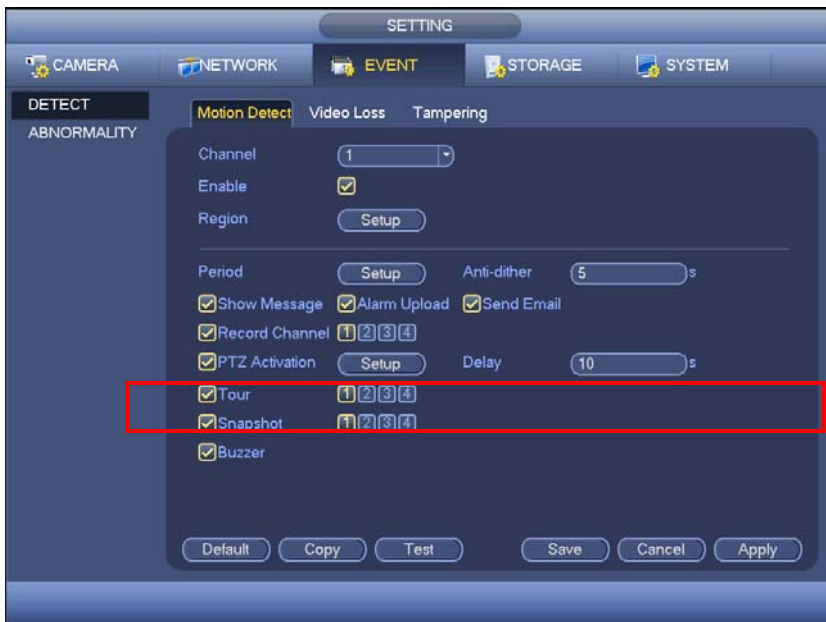

Figure 4-109
- In main menu, from Setting->Event->Detect, enable snapshot function for specified channels (Figure 4-109).